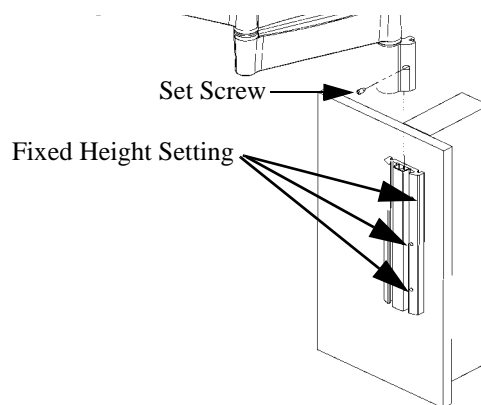

Figure 3. Install Mount and Tighten Set Screw
- D. Install the mount on the wall plate, set to desired height at one of the fixed height settings and secure by tightening the set screw (see Figure 3).